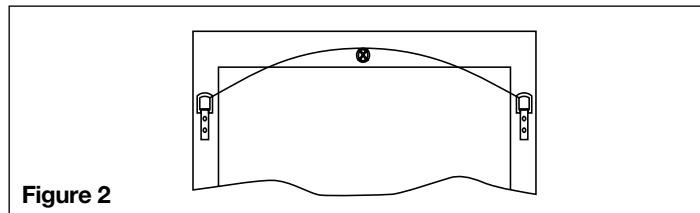

Figure 2
- If you choose to use hanging wire (not included), it must be capable of supporting 75 lbs. minimum. Attach wire to brackets as shown below (Figure 2).